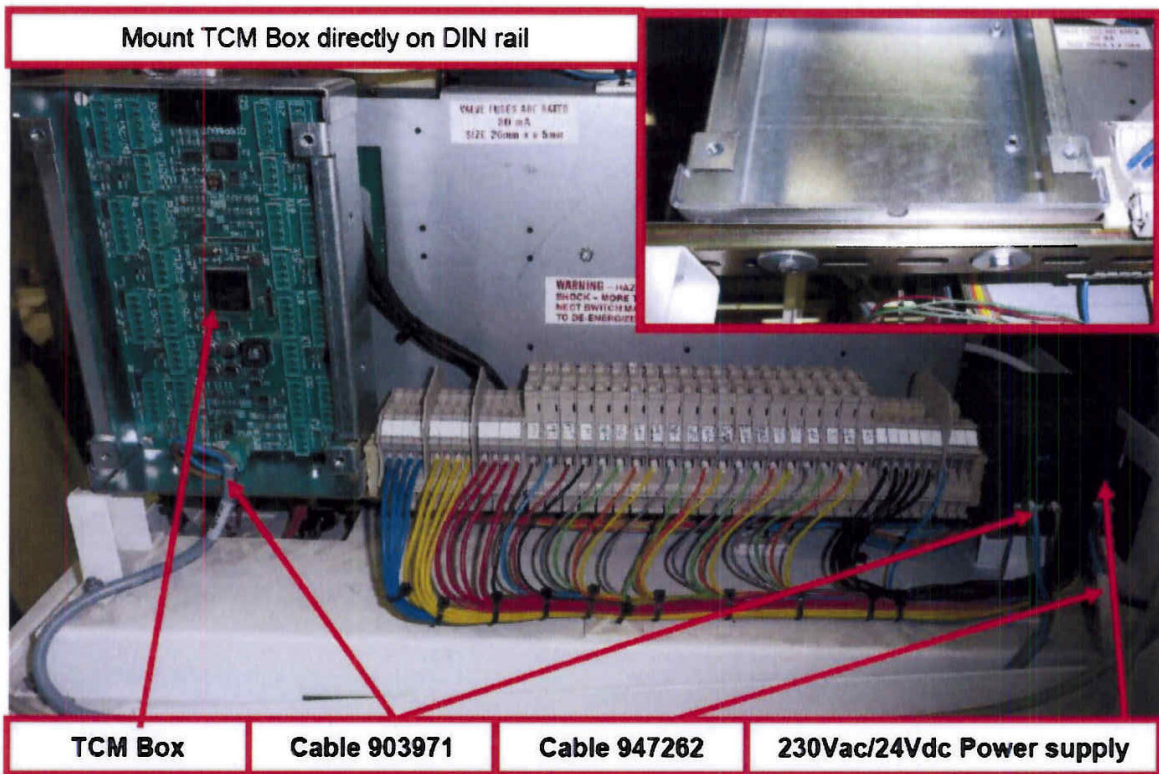

Figure 1 TCM and power supply
- Tokheim TCM Processor (Figure 1)
- 230 Vac Power supply Seimens LOGO!Power model 6EP11331-1SH02 or any other CE Marked equivalent – where required (Figure 1)
- Figure 1** TCM and power supply